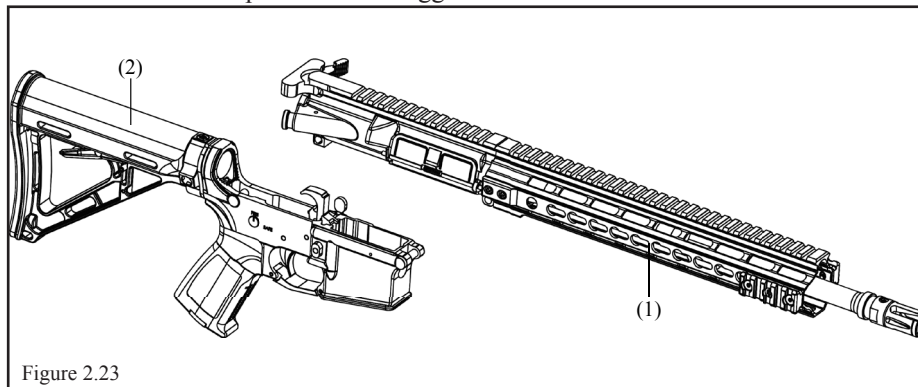

Figure 2.23
2. Slide the lug portion of the charging handle into the receiver groove and slide BCG(2) forward (3) into the receiver (4).
3. Place the upper (Fig. 2.23, 1) and lower receiver (2) together.